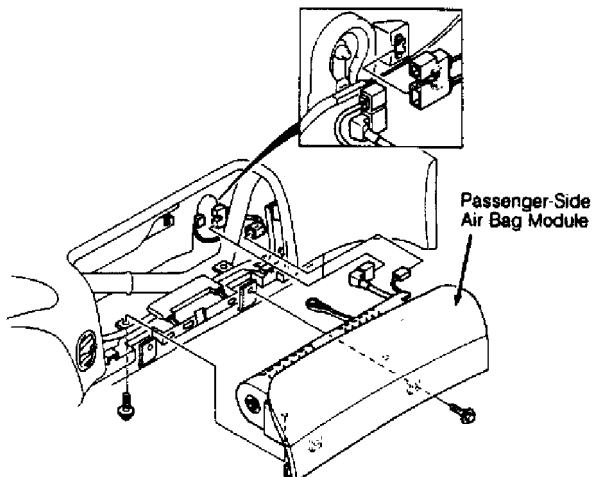

Fig. 4: Removing/Installing Air Bag Module (Passenger-Side)
2) Passenger-side air bag module is located in dash, above glove box. See Fig. 4. Remove rear console assembly, front console assembly, side panel, passenger-side undercover and lower panel.